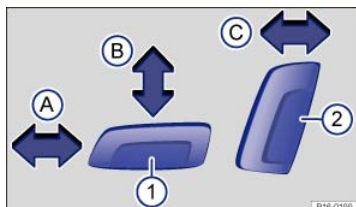

Fig. 74 Driver seat: Electrical controls to move the seat backward or forward, and adjust seat cushion height and backrest angle (if equipped).
Press the switch in the direction of the arrow ⇒ Fig. 74①:
- ① ①: Slide the seat forward or back. ②: Raise or lower the seat cushion.
- ② ③: Adjust the backrest angle ④.
- ① Move the front seat forward or back. Pull the lever up and move the front seat. The front seat must lock in place after the lever is released!
- ② Adjust the backrest angle. Pull the lever in the direction of the arrow and adjust the backrest angle. If the vehicle has an electrical control for adjusting the backrest angle, see ⇒ Fig. 74②.
- ③ Adjust the seat height. Move the lever several times up or down.